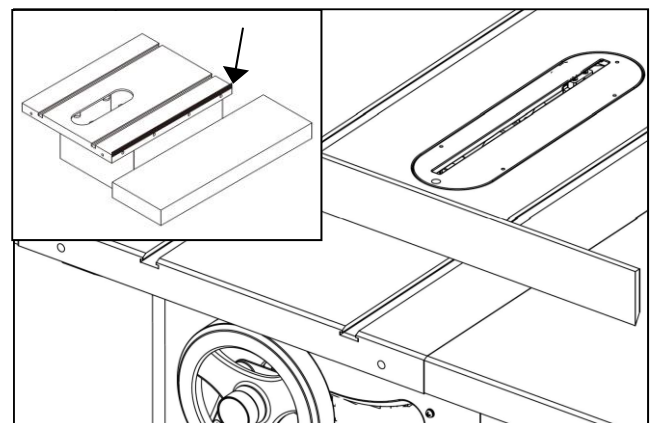

Fig. 8
3.4.3 Extension wings installation (**Fig.8**)
4. Use a straightedge to check whether that the main table is coplanar with the extension wing. If not, use a strip of masking tape to shim the extension wing up or down, as directed by the arrow in **Fig. 8**.